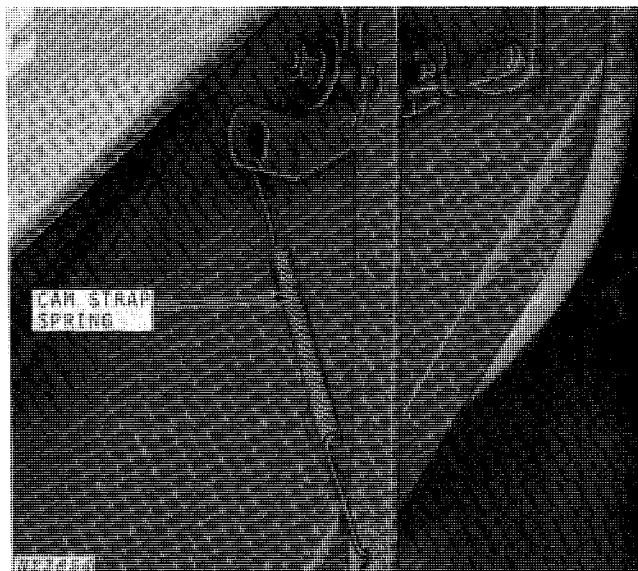

Fig. 33-Attaching Cam Strap Spring
6. Attach cam strap spring. (See Fig. 33.)